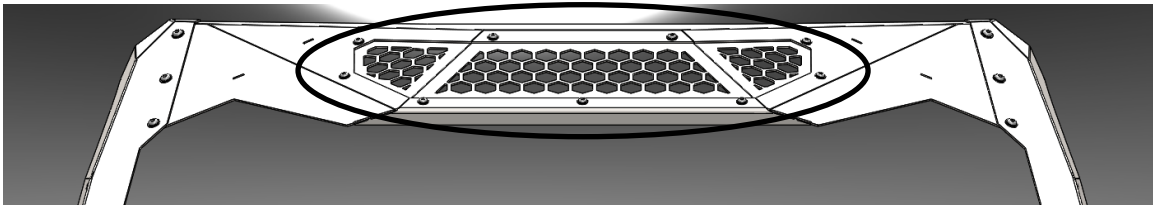

Figure 13
2. Install and tighten the visor trim (or light insert if purchased) into the back of the visor using the nine (9) 5/16"-18 bolts, rubber bonded washer, flat washer, and 5/16"-18 Nylock nut provided in the hardware kit. (Figure 13)